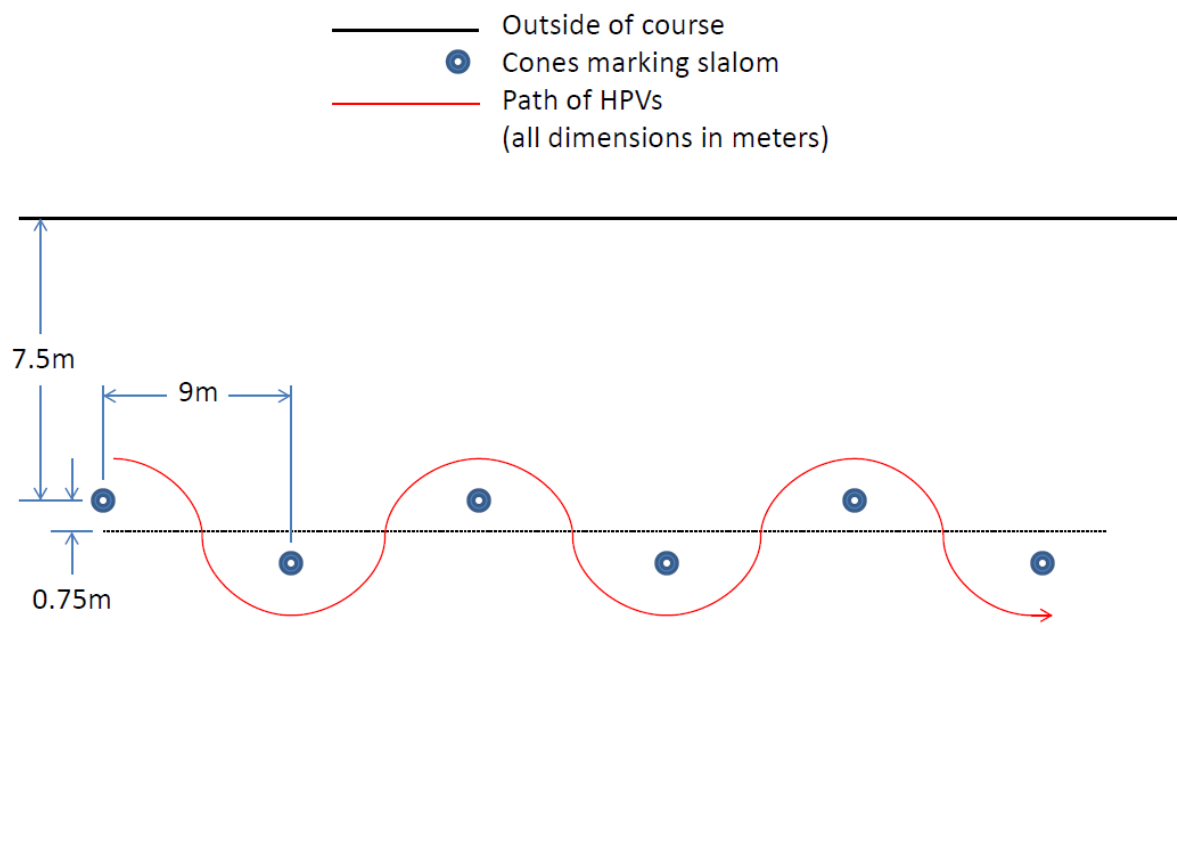

Figure 2: Slalom course (*Note: actual layout subject to limitations of venue*)
- A slalom section consisting of a series of tight turns as shown in Figure 2